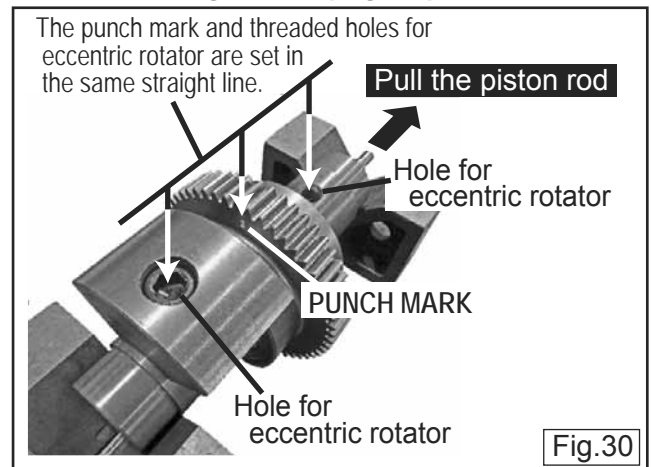

Fig.30
- ⑤ By seeing from the pulley side, while rotating driven gear to the right, insert the knock pin into the spiral groove of driven gear.
*In case of the driven gear is assembled correctly, when pulling out the piston rod, the punch mark of driven gear and the threaded holes for eccentric rotator of driven shaft should be set in the same straight line. (Fig. 30)*